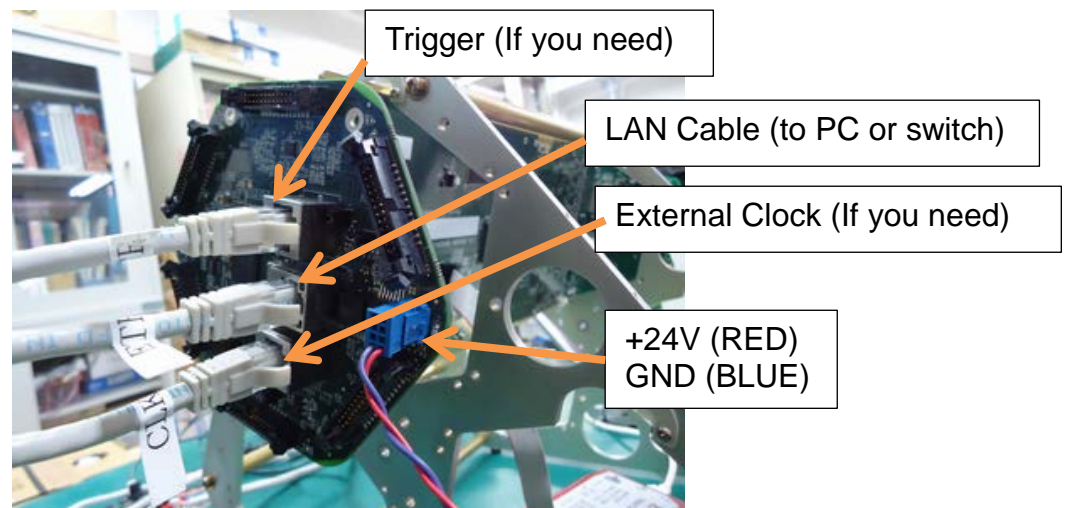
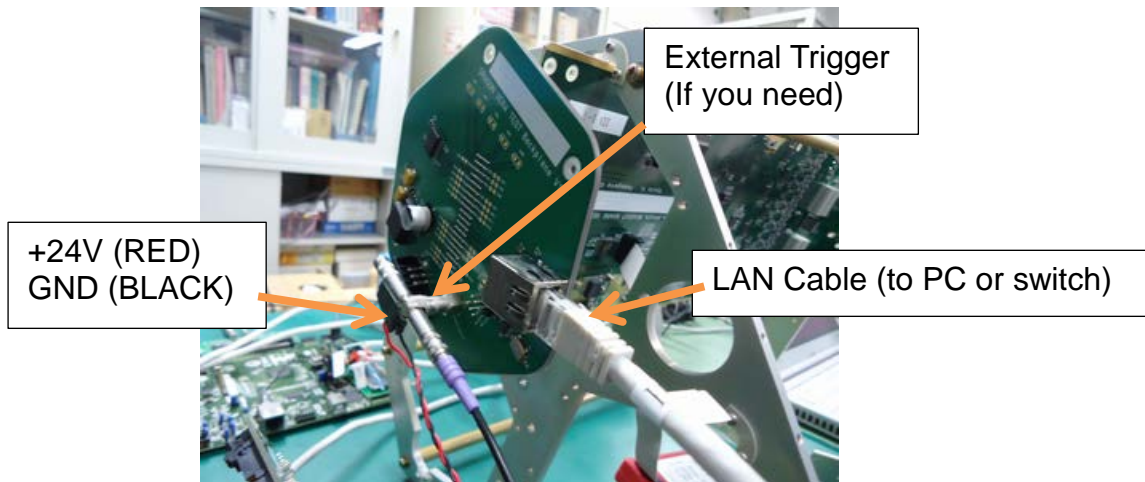

Figure 2: Backplane side (analog backplane)
Figure 3: Backplane side (fake backplane)
For the backplane, you can use analog backplane (BP), which analog trigger team produced for the LST (Figure 2). For the test purpose, we produced the fake backplane, which also can be used for the test operation (Figure 3).